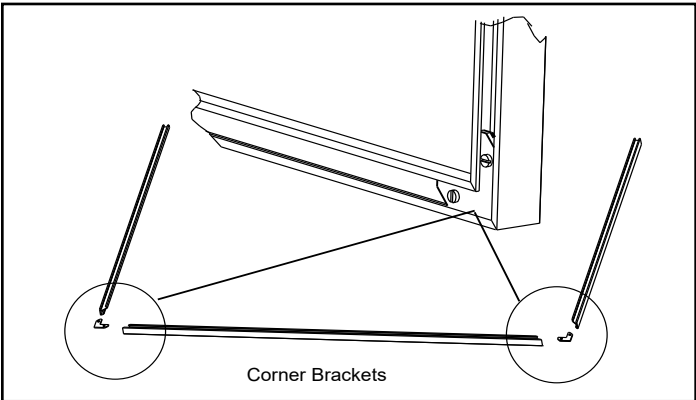

Figure 20.2
2. Assemble trim as shown in **Figure 20.2**.